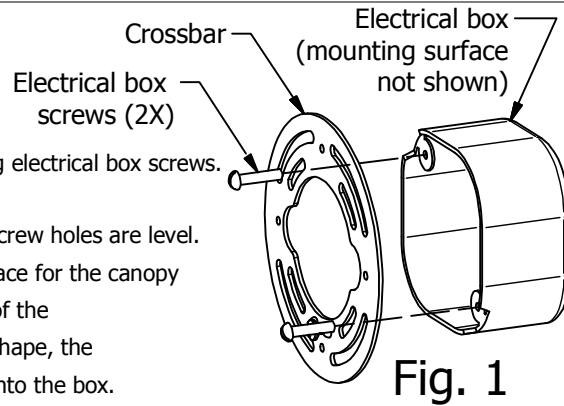

Fig. 1
- (Fig.1) Mount the crossbar to the electrical box using electrical box screws.